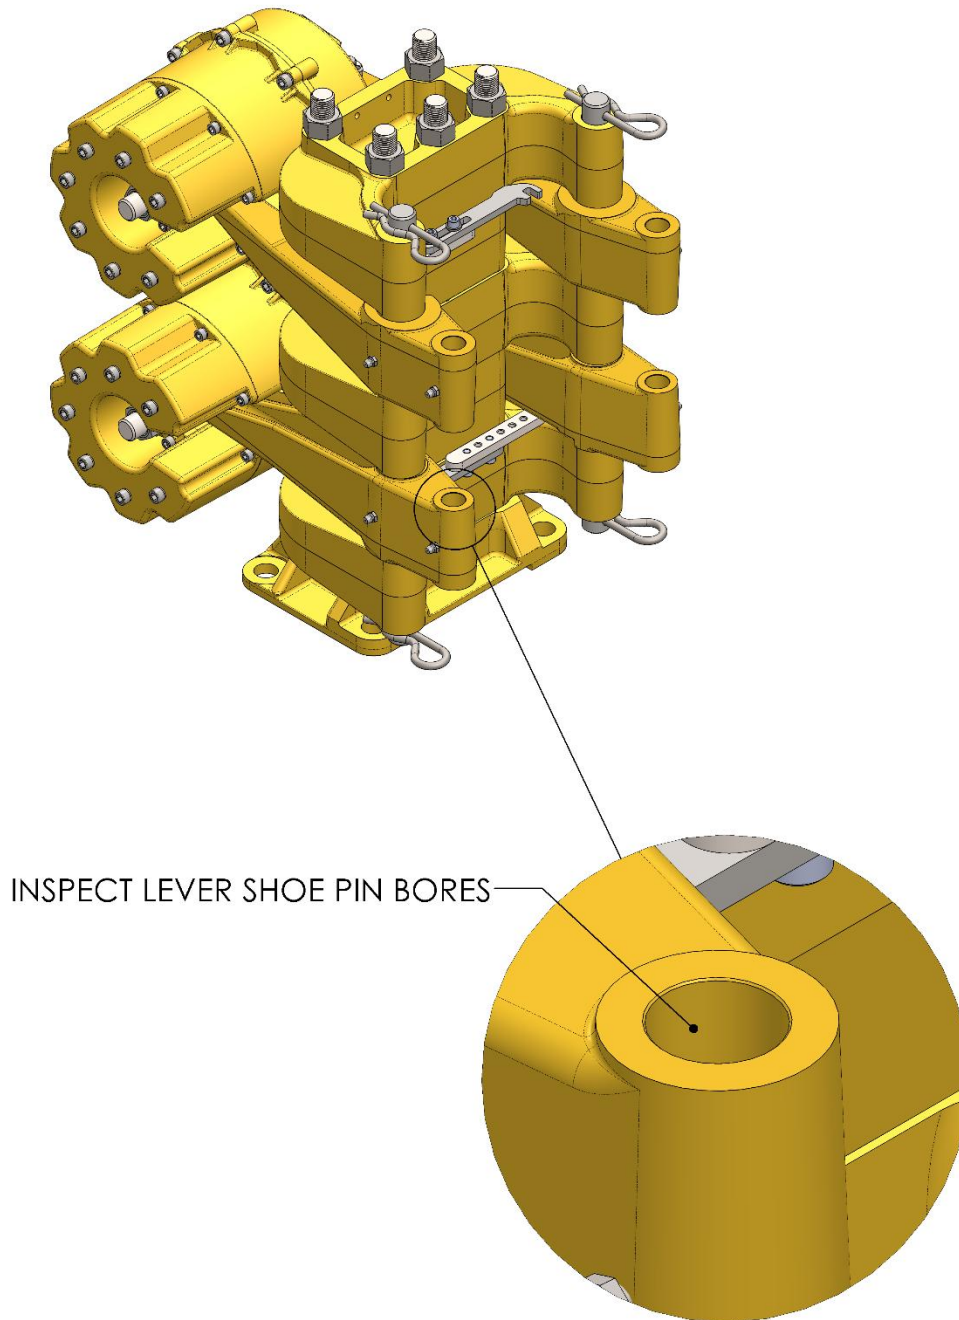

Figure 5: Inspecting lever shoe pin bore
11. Inspect the lever shoe pin bushing bores for signs of wear and damage as shown in Figure 5. The lever shoe pin bore must not exceed the specified diameter given in Table 10. If needed, replacement levers can be ordered from the factory.